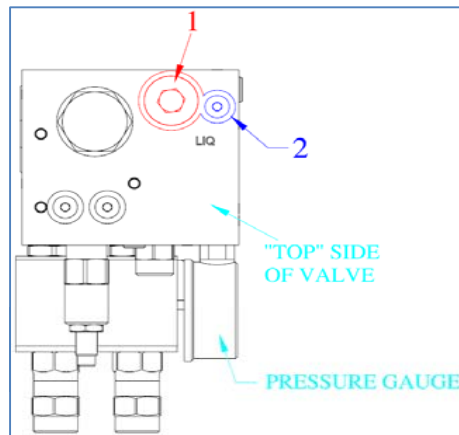

Figure 1
Remove the plug (item 1 on Figure 1) and the cavity plug (item 2 on Figure 1).